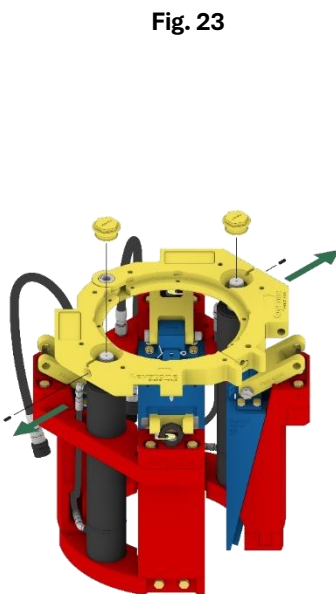

Fig. 25
**Step 3:** Remove the cylinder cap set screws and cylinder end caps from the leveling plate. Fig. 25